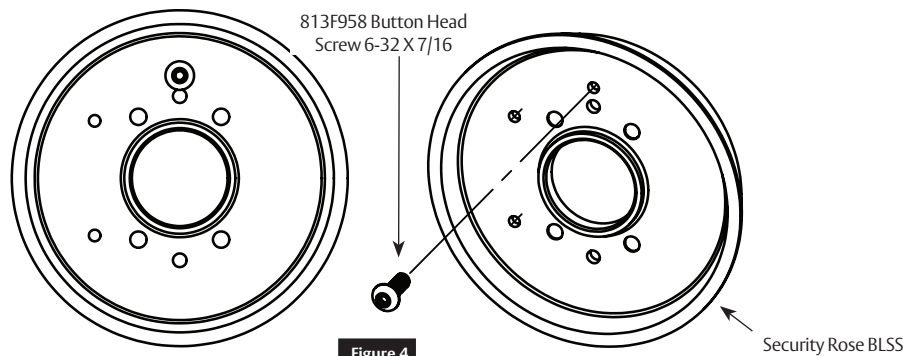

Figure 4
- Install button head screw into each rose. Use a 1/16" hex key to tighten screw firmly to rose. (Figure 4)